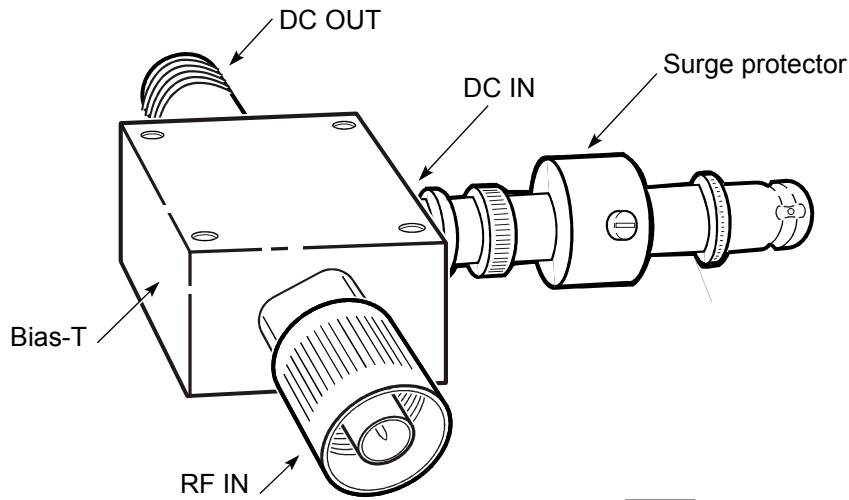

Figure 19 – Connecting the surge protector
1. To correctly connect a surge protector to a Bias-T, connect the male BNC connector on the surge protector to the DC IN connector on the Bias-T, as shown in *Figure 19*.